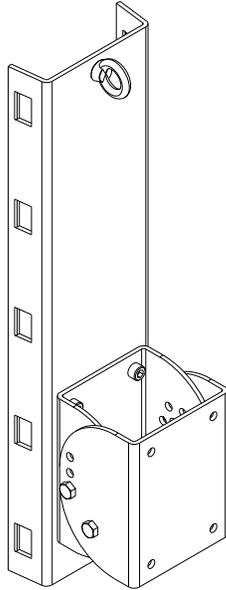
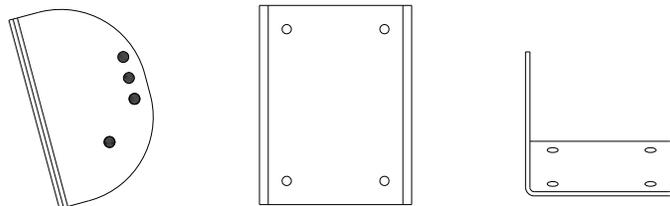

Figure 1
Figure 2
Figure 1 represents the isometric and top views of the pole bracket, including the loudspeaker bracket section.
The loudspeaker bracket is shown separately in Figure 2.
1. Mount the pole mount section (see figure 1) of the bracket to the pole at the desired height on the pole. The loudspeaker bracket shown in Figure 2 should be removed prior to hanging the pole mount section. The bracket is mounted to the pole using BAND-IT stainless steel bands. **DO NOT SUSTITUTE** bands of other material or other widths! There are **FIVE** locations on the pole bracket for bands. **ALL FIVE LOCATIONS MUST BE USED.** Figure 4 illustrates the locations for the stainless steel band clamps.